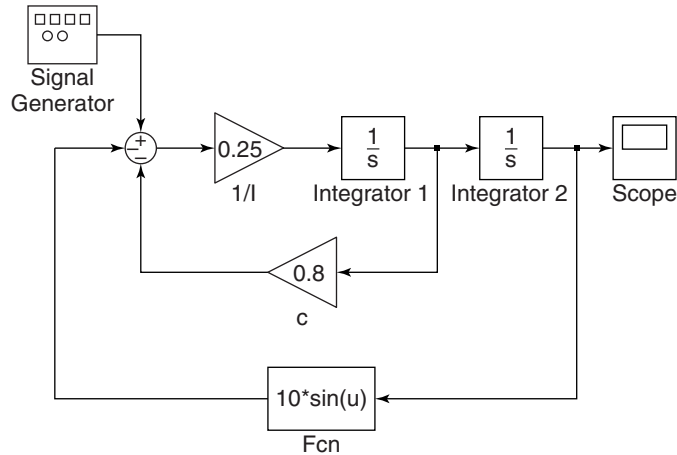

Figure 10.6–2 Simulink model of nonlinear pendulum dynamics.
1. Select and place in the new window the Integrator block from the Continuous library, and change its label to Integrator 1 as shown in Figure 10.6–2. You can edit text associated with a block by clicking on the text and making the changes. Double-click on the block to obtain the Block Parameters window, and set the Initial condition to 0 [this is the initial condition  $\dot{\theta}(0) = 0$ ]. Click **OK**.
4. Copy the Gain box, change its label to  $c$ , and place it as shown in Figure 10.6–2. Double-click on it, and set the Gain value to 0.8. Click **OK**. To flip the box left to right, right-click on it, select **Format**, and select **Flip**.